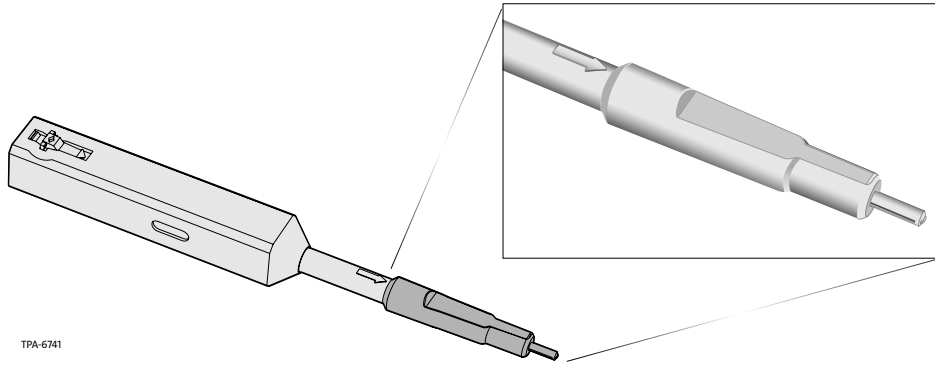

Figure 7
Step 1: If an adapter is already installed, remove it as shown in Figure 7